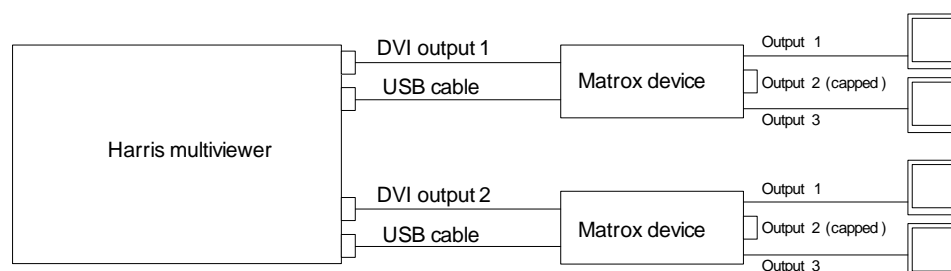

Figure 3-9. Connecting Matrox TripleHead2Go Boxes
2. Connect the DVI and USB cables from the Matrox TripleHead2Go device to as in Figure 3-9.